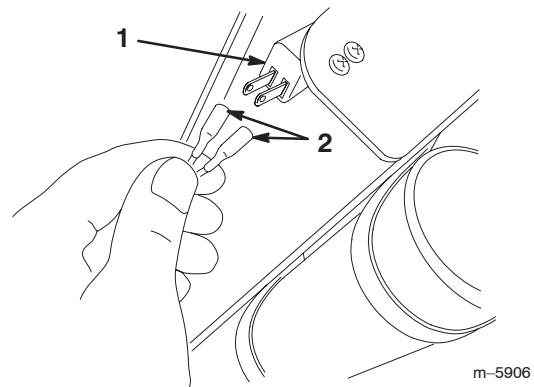

Figure 4
6. Connect the right-angled insulated terminals to the switch (Fig. 4).
7. Install the harness connector to the ignition switch (Fig. 4).